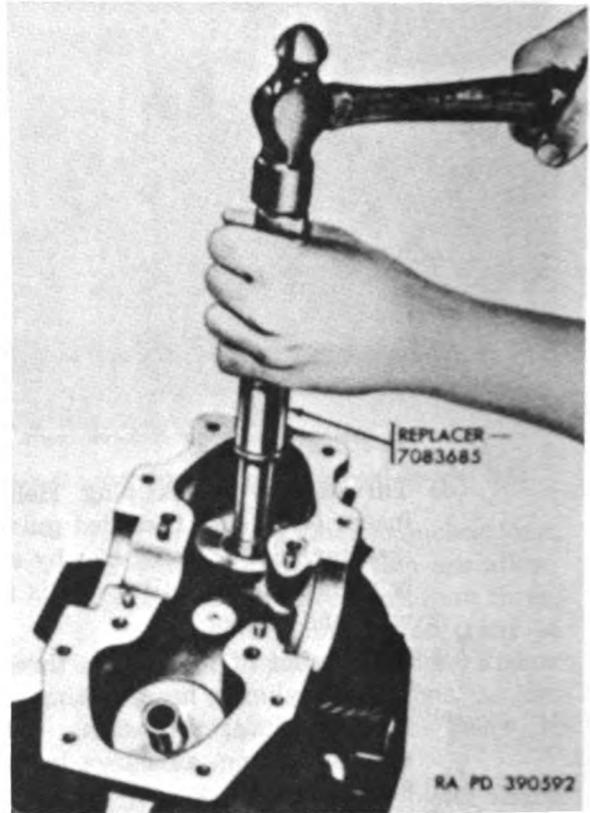

Figure 88. Installing intake valve guide.
- (c) Slide ferrule into bore for valve guide in cylinder as shown in figure 88. Drive guide into guide seat. Remove replacer and replace ferrule on replacer. Ream new valve guide ((3) and (4) below).